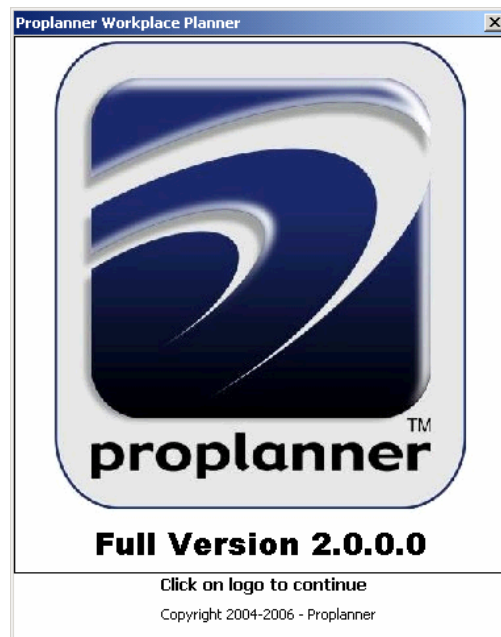

Figure 2
STEP 2: Select the “W” Proplanner icon button, and when the WPP application loads it will present an intro screen similar to that shown below. (See Figure 2) Simply clicking anywhere on this screen will load the main WPP application window.